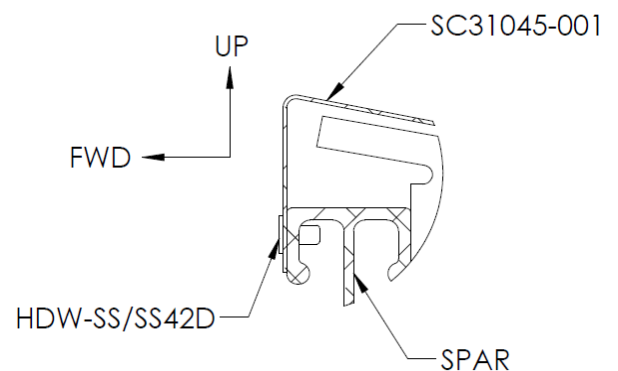

Figure 4 – Extension Skin
- 16.** Disconnect the supply and fuel sight gauge lines from fuel tank. Remove all (4) nipple fittings from tank. Remove the tank ground wire from the inboard rib. Remove the fuel tank by loosening the straps holding the tank in place and then lifting the tank out.
- 18.** With the bay open, center SC31045-001 along the aft spar making sure that the skin extends to the edge of both ribs, see Figure 4. Clamp the extension skin to the aft spar in the inboard and outboard corners to secure it while drilling.
- 19.** Mark locations for five equally (3.6") spaced Ø.129 holes on the leading edge face of the skin extension. Using a drill stop set for no more than 0.25" penetration, drill the holes through the skin and ledge of spar using a #30 drill and install (5) HDW-SS/SS42D as shown in Figure 4.